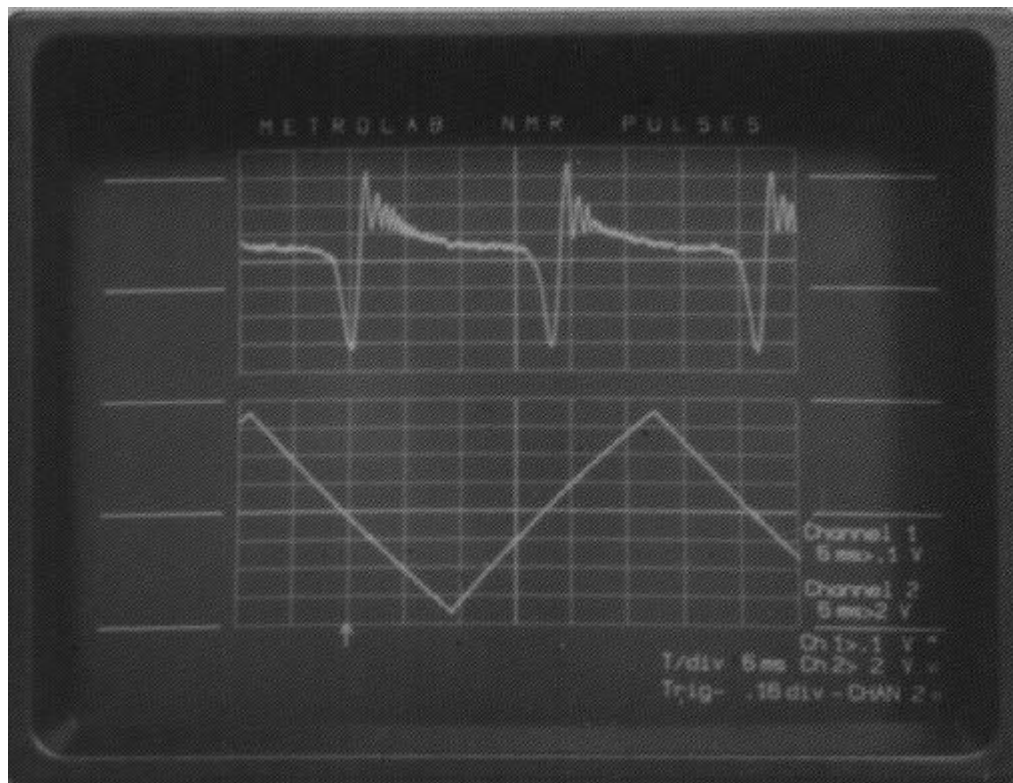

Fig. 3
- For optimum results the probe should be fixed in a position of high homogeneity, this being indicated by the "wiggles" and maximum amplitude of the NMR signal (refer to Fig. 3).